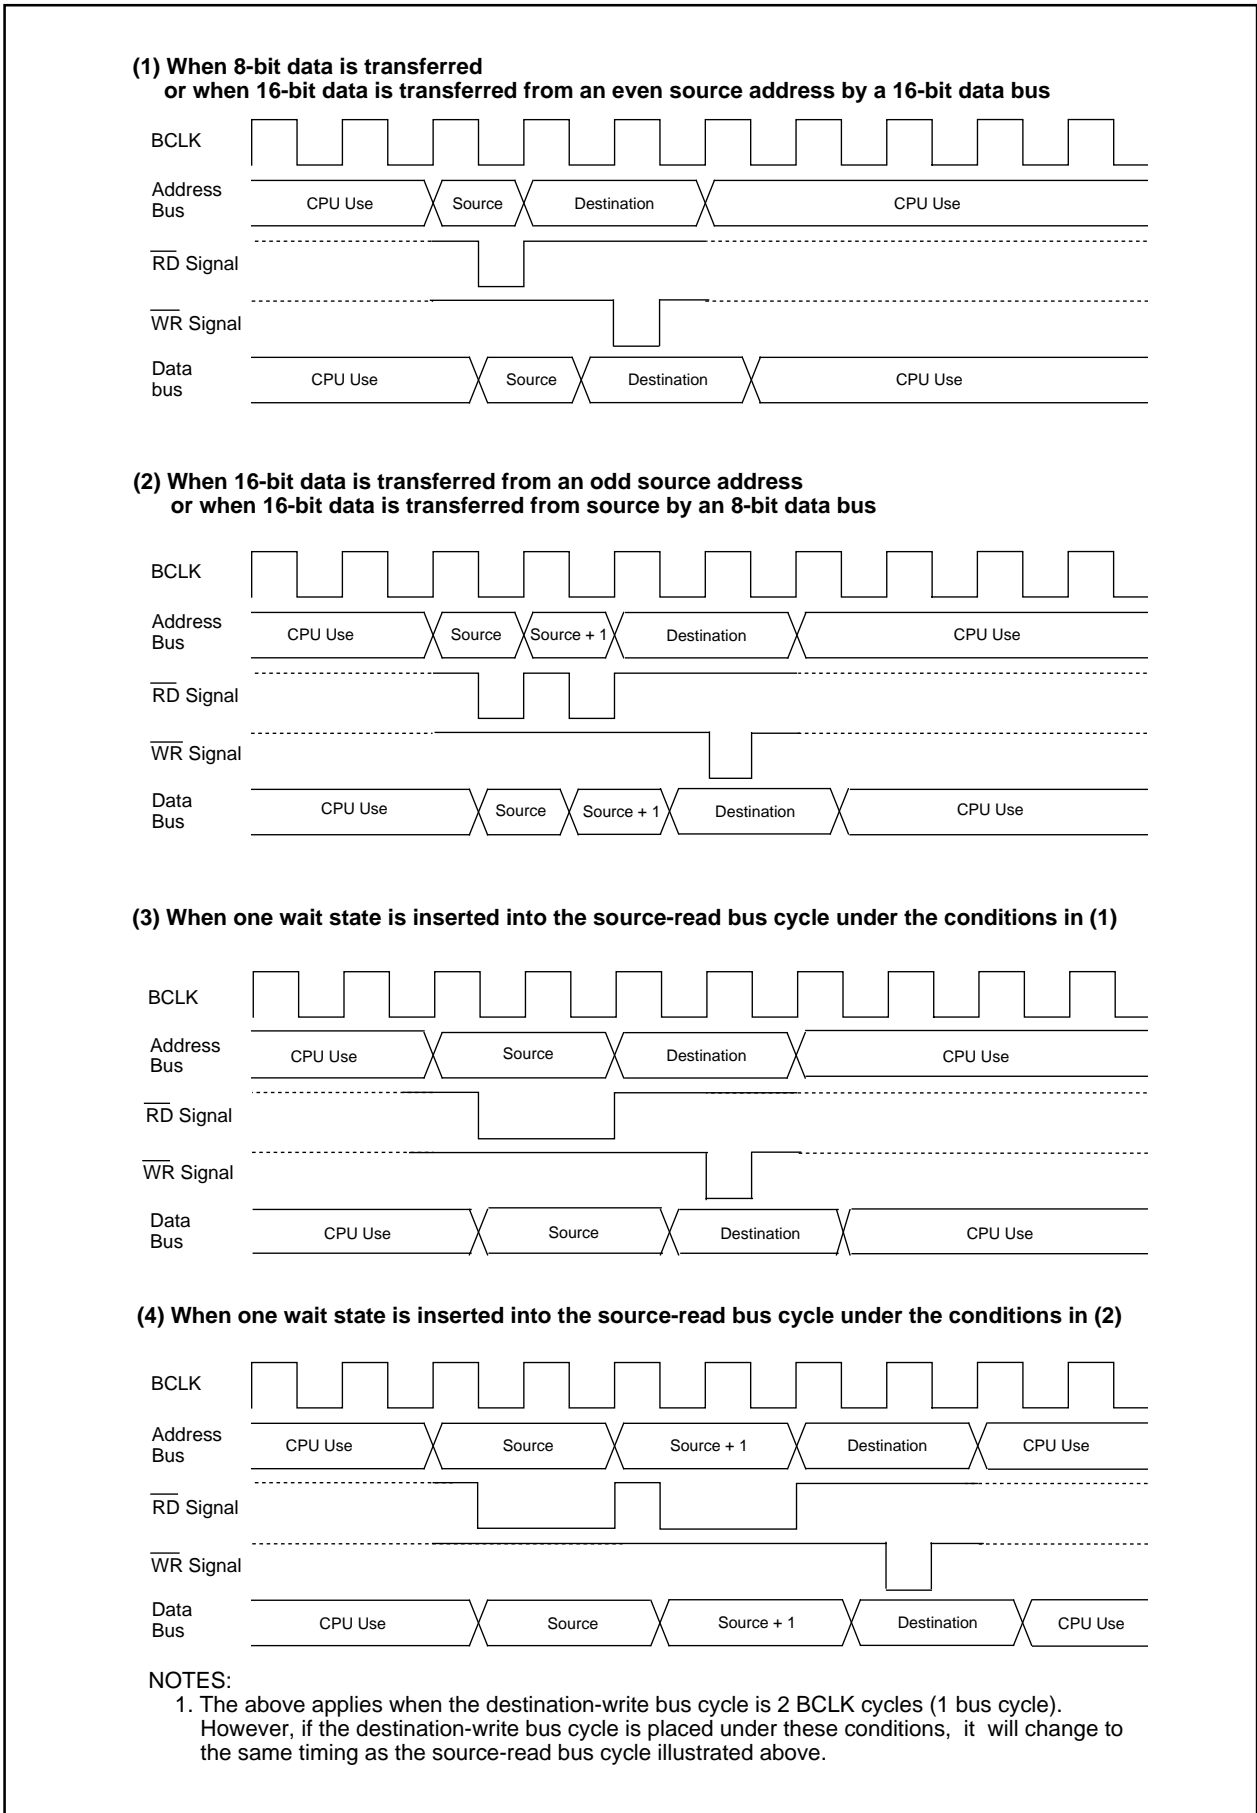

Figure 12.6 Transfer Cycle Examples with the Source-Read Bus Cycle
Figure 12.6 shows an example of a transfer cycle for the source-read bus cycle. In Figure 12.6, the number of source-read bus cycles is illustrated under different conditions, provided that the destination address is an address of an external space with the destination write bus cycle as two BCLK cycles (=one bus cycle). In effect, the destination-write bus cycle is also affected by each condition and the transfer cycles change accordingly. To calculate a transfer cycle, apply respective conditions to both destination-write bus cycle and source-read bus cycle. As shown in example (2) of Figure 12.6, when an 8-bit data bus, accessing both source and destination addresses, is used to transfer a 16-bit data, two bus cycles each are required for the source-read bus cycle and destination-write bus cycle.